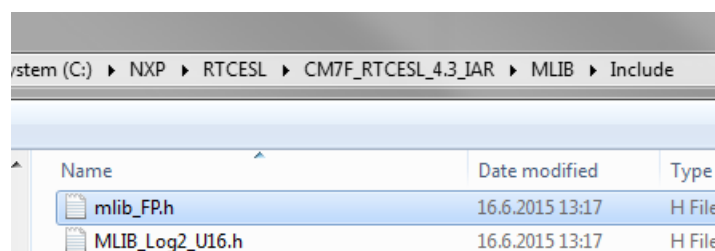

Figure 1-32. Add Files dialog
5. Navigate into the library installation folder C:\NXP\RTCESL\CM7F_RTCESL_4.6_IAR\MLIB\Include, and select the *mllib_FP.h* file. (If the file does not appear, set the file-type filter to Source Files.) Click Open. See Figure 1-32.